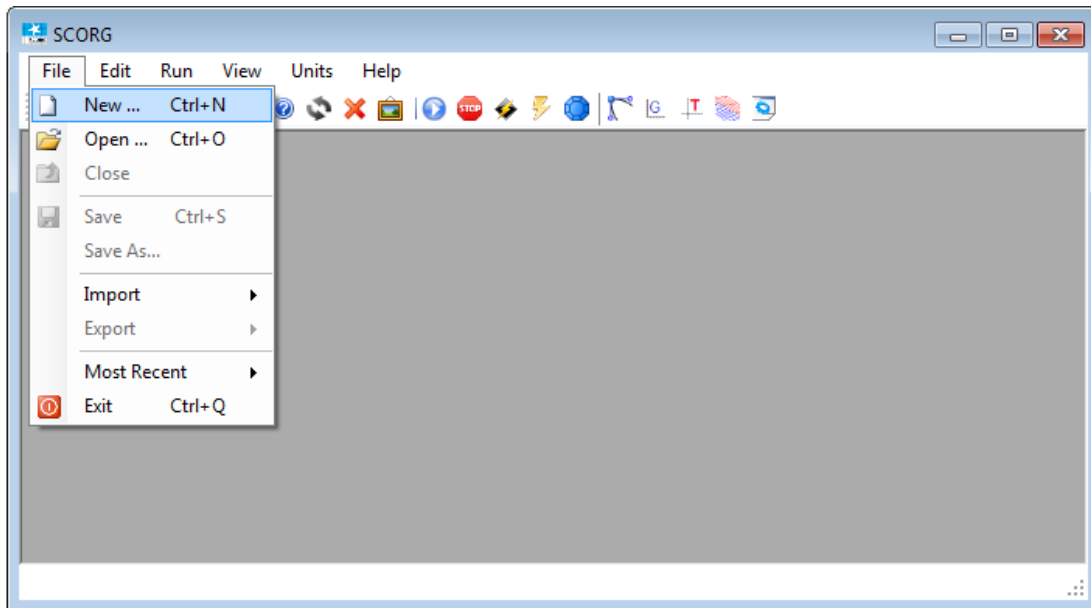

*Figure 1-1* Pressure Variation diagram of a Twin Screw Compressor (Kovacevic, et al., 2007)
- Obtain the pressure field inside the rotor chamber and in the suction and discharge domains. Example shown in *Figure 1-1*.